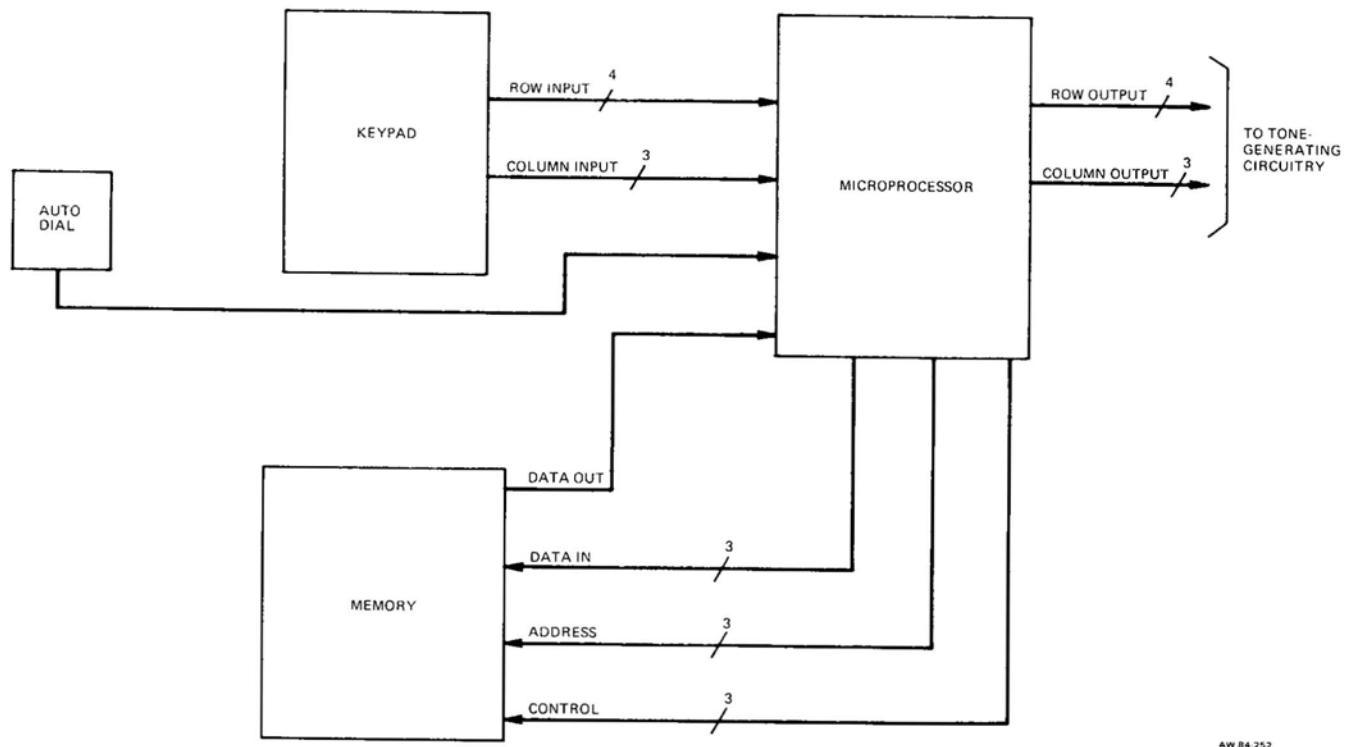

Figure 3: Model 186087 Auto Dialer, Block Diagram
2.03 The auto dialer PCB consists of a microprocessor integrated circuit (IC), a Random Access Memory (RAM) IC, and other solid-state components. (See Figure 3.) The microprocessor controls the operation of the memory storage and provides LND storage while the RAM provides the storage of the 16-digit numbers. The other solid-state components aid the microprocessor in its operation.